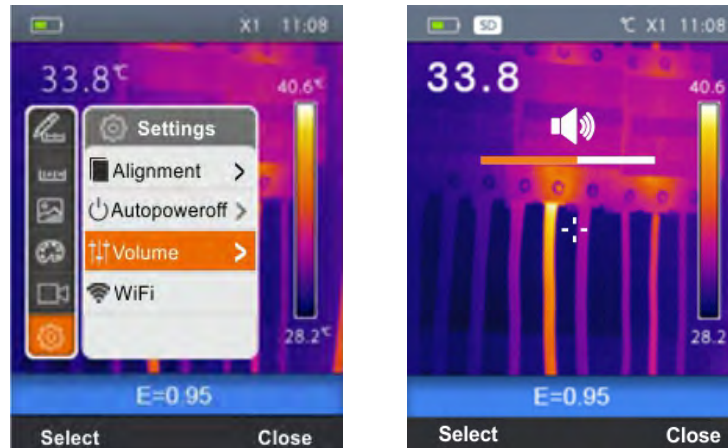

Fig. 15: Volume level setting
1. Select the item “Volume” using the keys or and press the key . The screen Fig. 15 – Right side is shown on the display